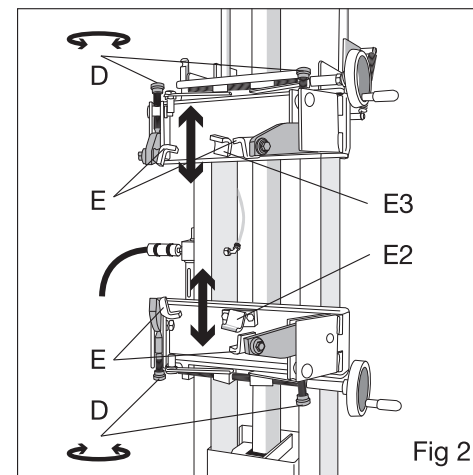
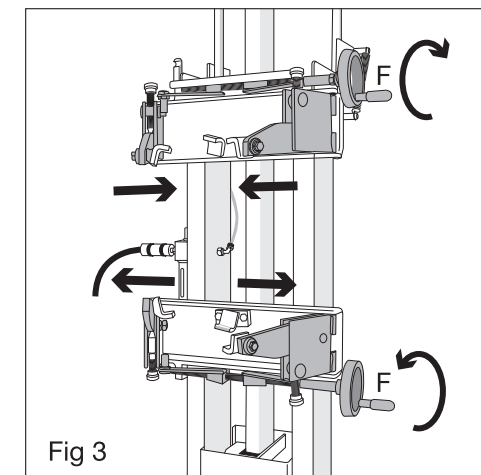
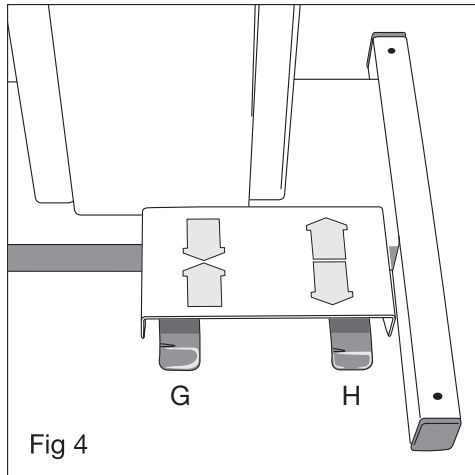
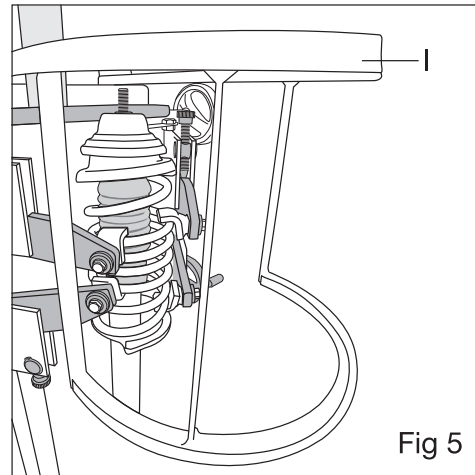

Fig 2
Fig 3
Fig 4
Fig 5
- Always insure that the safety guard (**I** in **Fig 5**), is in place when dismantling the strut from the coil, and during reassembly.
- Refer to diagrams, **Figs 2, 3, 4** and **5**. With the strut and spring assembly removed from the vehicle, pull down locking lever and move the spring compressor guard (**I** in **Fig 5**), to the UP position, then offer up the strut/spring assembly and locate a lower coil of the spring on the lower rear spring securing hook (**E2** in **Fig 2**).
- With the guard in the UP position, the compressor will operate with reduced pressure that enables the operator to lift the assembly and set the coils of the spring in position. Press foot pedal control (**G** in **Fig 4**) and steadily bring up the lower spring securing hook platform until either the top plate, or an upper coil locates against the upper rear spring securing hook (**E3** in **Fig 2**).
- Then adjust the positions of both the upper and lower spring securing hooks (**E** in **Fig 2**), by turning the adjusting knobs (**D** in **Fig 2**) for vertical movement, and by turning the control wheels (**F** in **Fig 3**), for horizontal movement. Depending on the design of the strut, the upper securing hooks can be located against the top plate or the upper coils.
- Press foot pedal control (**G** in **Fig 4**) to start the compression. Once the spring is lightly compressed, stop the compression and once more check that the coil spring is safely secured within the hooks.
- Gradually release the pressure from the spring by pressing foot pedal control (**H** in **Fig 4**). Take care to support the strut and spring assembly as it becomes loose. When all pressure has been released, swing up the spring compressor guard and remove the strut and spring assembly.
- Gradually and carefully release the pressure from the spring by pressing foot pedal control (**H** in **Fig 4**). Ensure the spring locates properly to the strut.